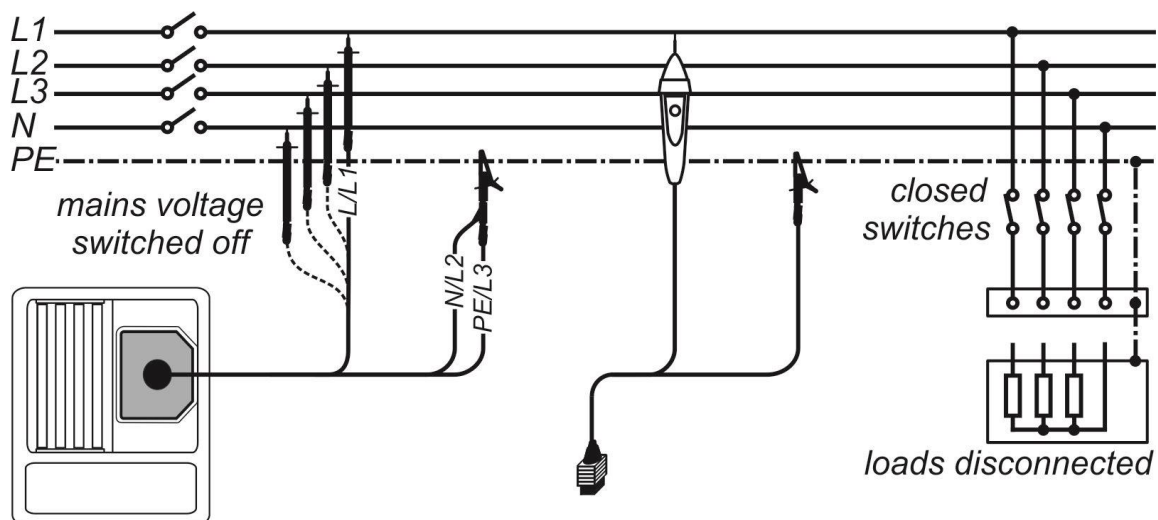

Figure 5.6: Connection of 3-wire test lead and tip commander
- ❑ **Connect** test cable to the instrument and to the item to be tested (see *Figure 5.6*).